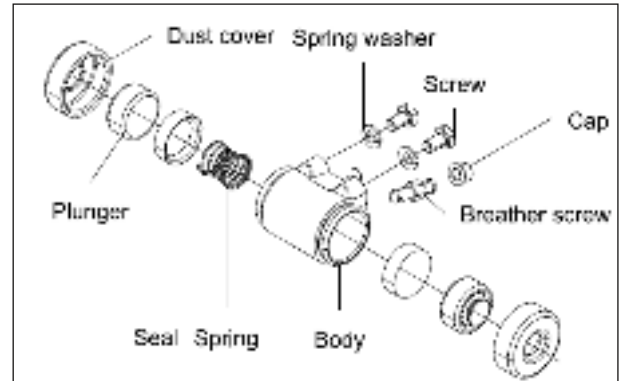

Fig. 5.51
- Take out the piston along with spring. (Fig. 5.51)